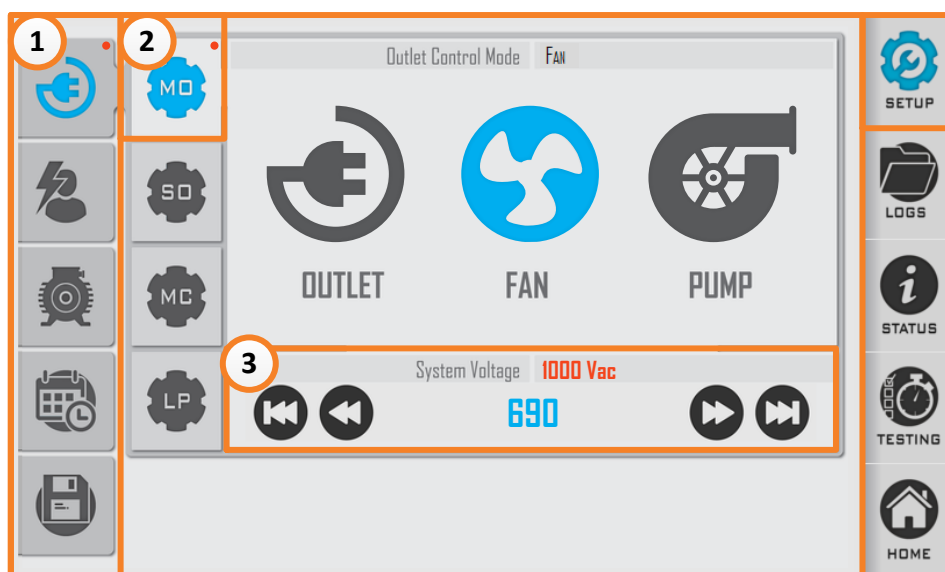

Figure 34: Rockstarter UI – SETUP Page
The SETUP interface allows the user to configure all control and protection settings, refer to Figure 34. This interface has a number of features identified in this image by numbered circles and detailed below. The SETUP menu is navigated via the five options down the left hand side of the display with the blue icon representing the active menu selection, refer to item 1. The outlet must be stopped before parameters can be modified. If the outlet is running then only the current parameters may be viewed. The following provides an overview of each of Setup menu options from top to bottom.
- Mode of Operation (MO)
- Starting Options (SO)